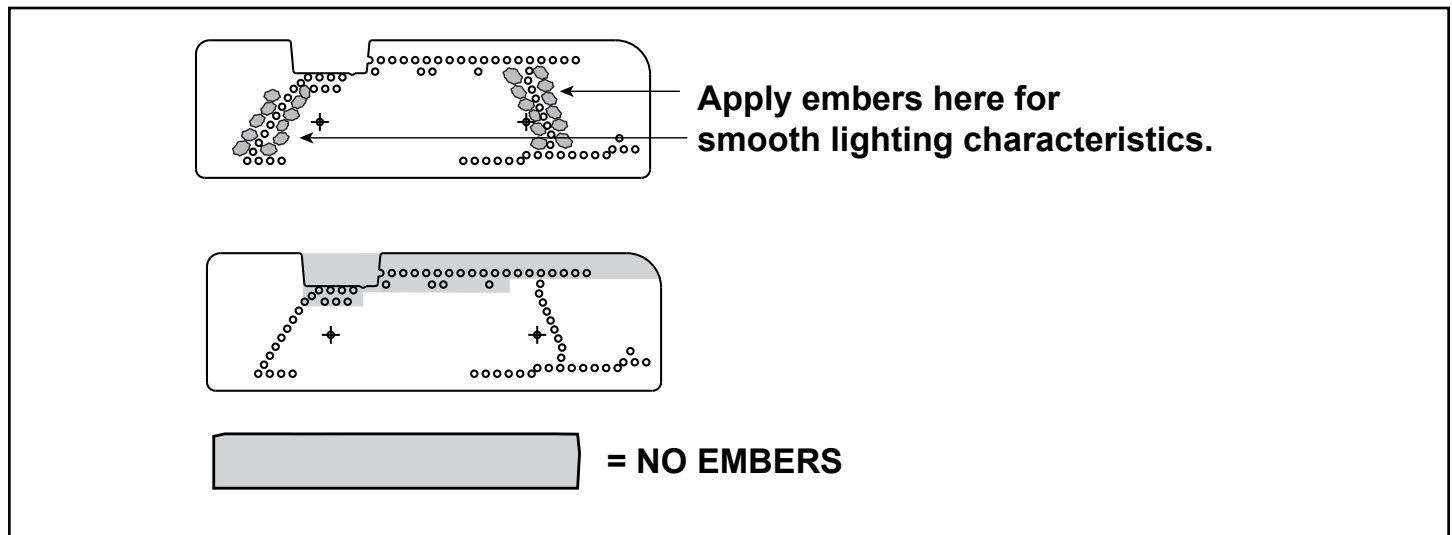

Figure 11.3 Burner Media / Ember Placement
- Embers may only be placed in areas as shown in Figure 11.3.